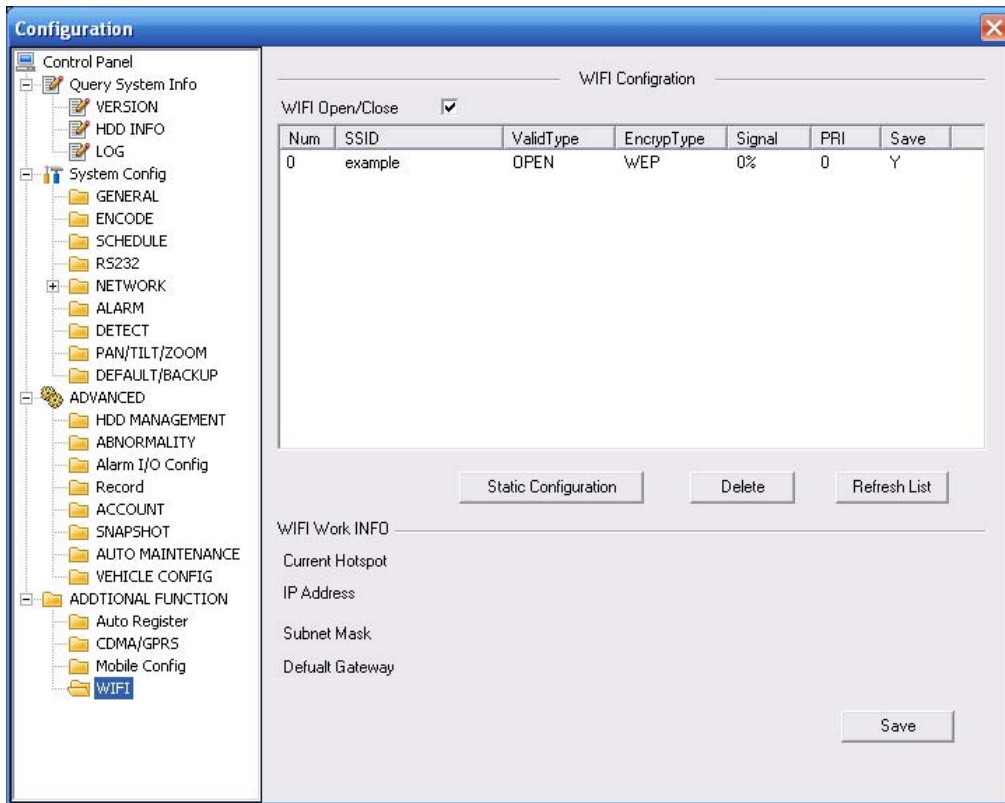

Figure 7-57
Step 2: In the pop-up interface, from the Control panel->Additional function->WIFI, check the WIFI open/close box to enable WIFI function. See Figure 7-57.